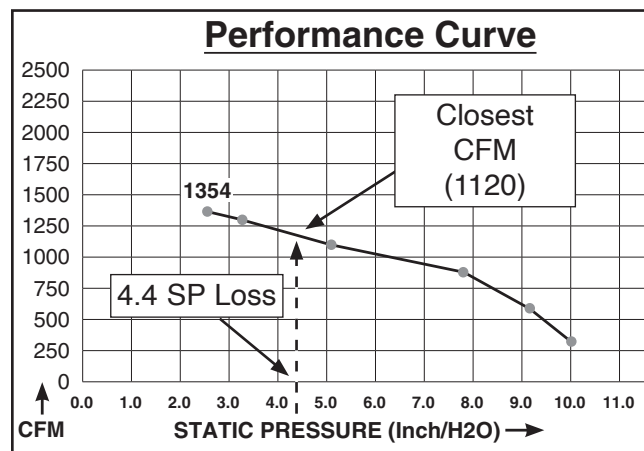

Figure 36. Example CFM for static pressure loss of line connected to a dust collector & router.
5. Compare the total static pressure loss for that line to the closest CFM given in **Figure 36** for your dust collector.
Example: A typical **Data Sheet Performance Curve** is illustrated in **Figure 36**. Find 4.4 on the Static Pressure axis (the amount of total static pressure loss calculated in **Figure 36**), then refer to the closest value on the CFM axis—approximately 1120 CFM.